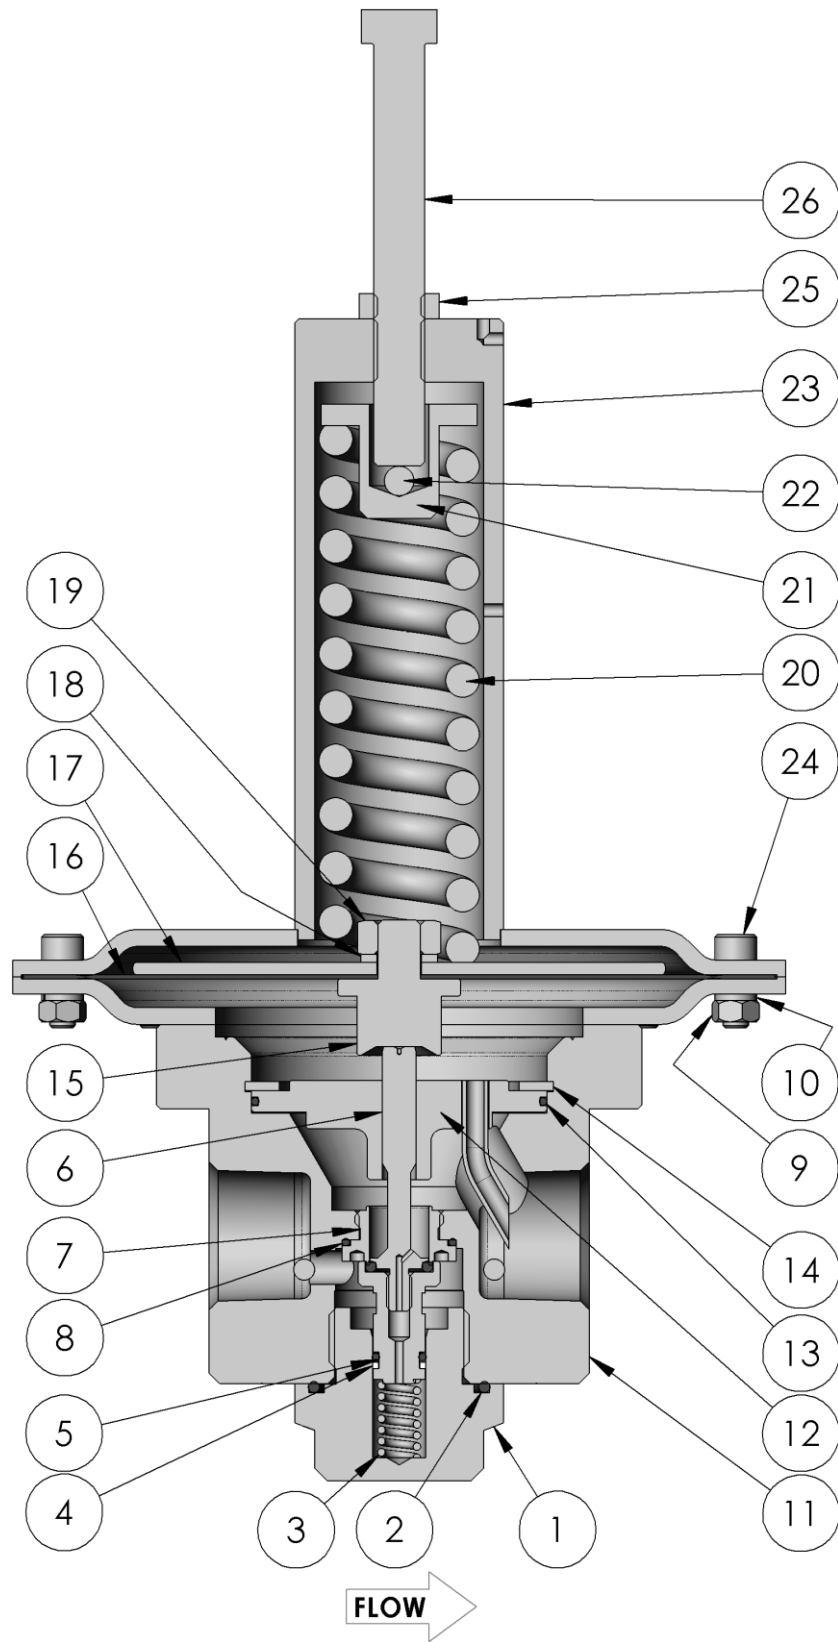

Fig 2
1. Fit the body plate O-ring (13) onto the body plate (12).
2. Insert the body plate (12) into the body (11) with the suction tube aligned to the middle of the outlet port. Retain the plate with the retaining ring (14).
3. Fit the seat O-ring (8) into the body (11) and ensure that it is seated all the way round.
4. Lightly lubricate the seat threads (7) then insert the seat (7) into the body (11) using the seat insertion tool.
5. Torque the seat (7) to 7 lbf·ft (10 N·m). Take care not to pinch the seat O-ring (8) or damage the seat (7) with the tool.
6. Fit the poppet O-ring (5) and, if present, backup ring (4) onto the poppet (6). Ensure they are oriented correctly per Fig 2.
7. Lightly lubricate the poppet O-ring (5) then insert the poppet (6) through the seat (7) and body plate (12). Take care not to damage either the seat (7) or poppet (6).
8. Place the poppet spring (3) onto the poppet (6).
9. Fit the body plug O-ring (2) onto the body plug (1) and lightly lubricate the body plug threads.
10. Insert the body plug (1) into the body (11) over the poppet spring (3). Torque to 37 lbf·ft (50 N·m).
11. Place the diaphragm (16) onto the diaphragm plate (17) then insert the diaphragm screw (15) through the plate per Fig 2. Lightly lubricate the diaphragm screw threads (15).
12. Secure the assembly with the diaphragm nut (19) and washer (18). Torque to 9 lbf·ft (12 N·m).
13. Place the diaphragm assembly in the body (11) on top of the poppet (6). Align the holes in the diaphragm (16) with the holes in the body (11).
14. Fit the ball (22) into the spring guide (21) and retain in place.
15. Place the set spring (20) and spring guide (21) onto the diaphragm plate (17).
16. Lightly lubricate the cap screws (24). Fit the spring housing (23) over the spring (20) and secure with the cap screws (24), washers (10), and nuts (9).
18. Lightly lubricate the adjusting screw (26) then insert it and the lock nut (25) into the spring housing (23).